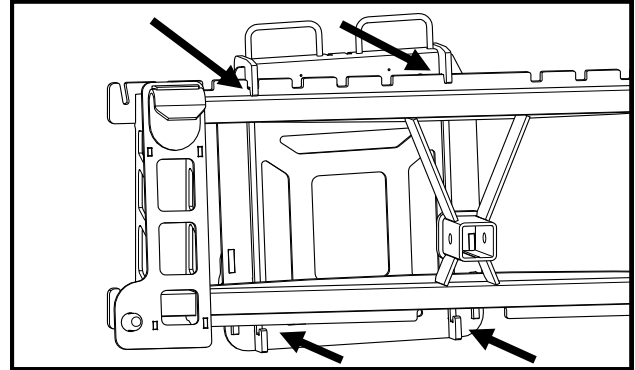

Fig. 8.3—Hang Mounting Frame onto Fork Frame
- 8.3 Hang the mounting frame by upper hooks on the fork frame rails. Hang one hook near the center of the fork rail and the other in one of the fork detents. Allow the mounting frame to rest flat against pallet fork frame so that both lower hooks pass under the bottom rail. See Fig 8.3